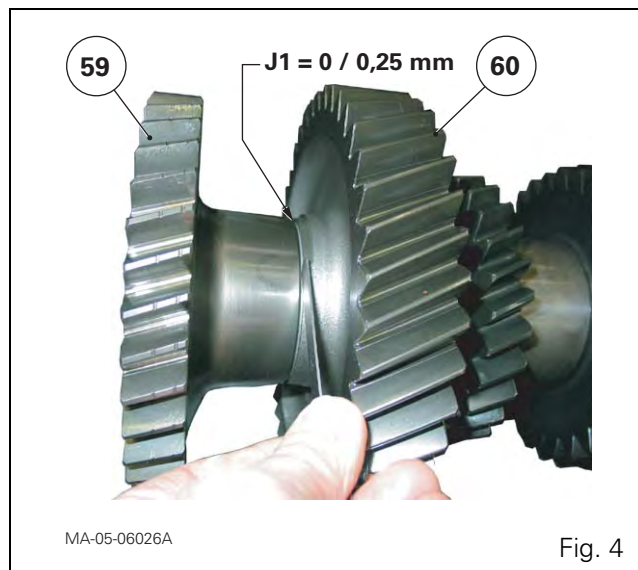

Fig. 4
29. Using a set of shims, measure the space between the 1st gear (60) and the 2nd gear (59) (Fig. 4).
30. Depending on the measured distance, choose shim(s) of an appropriate thickness to obtain the clearance **J1 = 0 to 0.25 mm** (Fig. 4).
31. Remove the circlip (61), opening it up as little as possible, and remove the gear (59).
33. Fit bearing cone (63) (see § E).